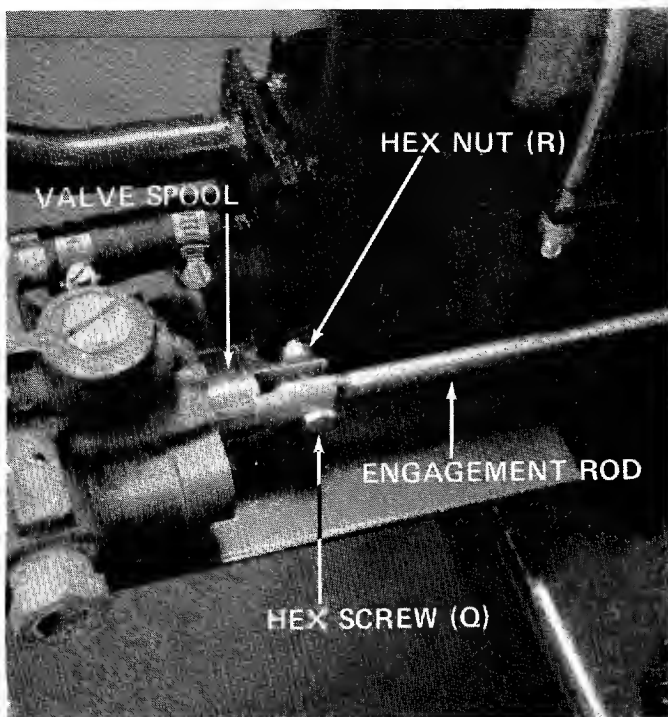

FIGURE 7
8. Place end of engagement rod on valve spool and secure with hex screw (Q) and hex nut (R). See figure 7.